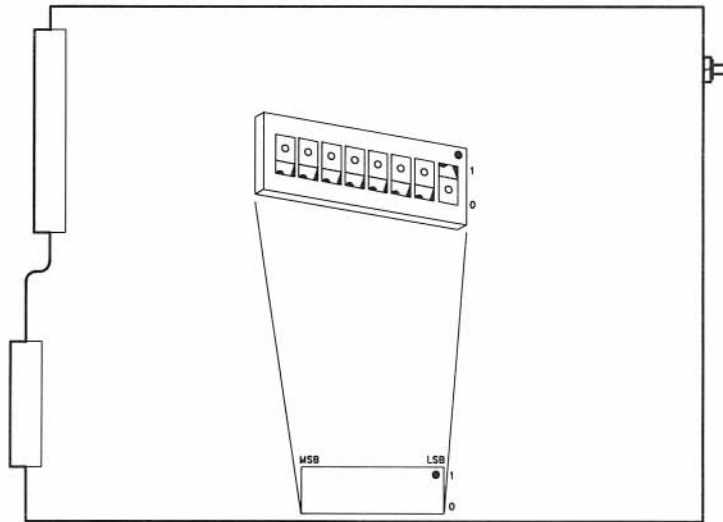

Figure 5-23. Video Board Configuration Switches
- a. Set the video board's eight configuration switches as shown in Figure 5-23.